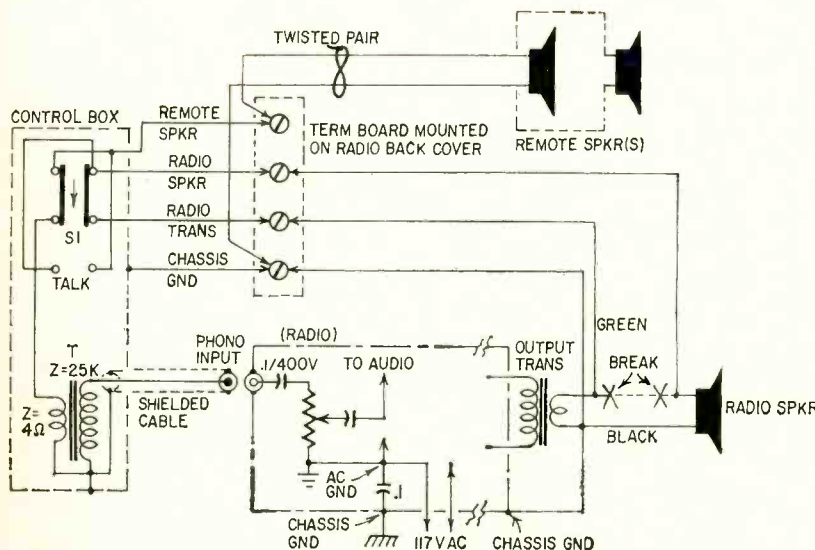

Fig. 1—Schematic of the simplest conversion. It's recommended only for transformer-powered "ac only" radios.
The input transformer (T) and the talk-listen switch are mounted in the control box, as shown in Fig. 1 and the photo. A cable approximately 2 feet long runs from the control box to a terminal strip on the radio's back cover. All the speaker wiring from the radio